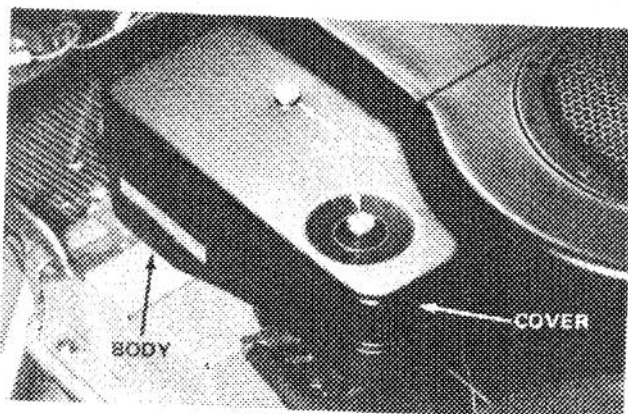

Figure 20
2. Remove two screws and lift complete air cleaner assembly off carburetor (Fig. 20).